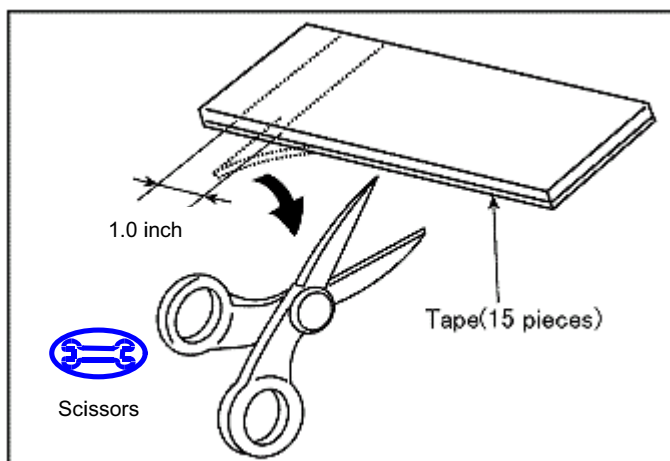

Figure K1
1. Cut foam tape in sections of approximately 1 inch to provide 15 pieces. (Figure K1)